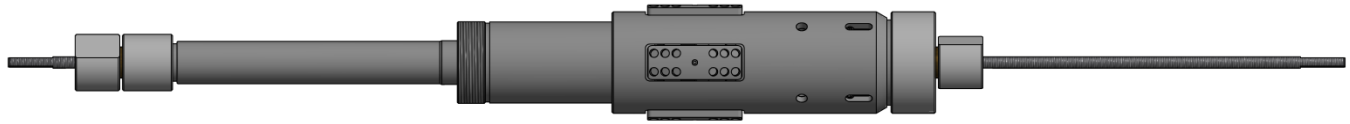

Fig. 6
K-1.5.8) Tighten threaded lug (T1-4) to pull collet fingers on ratchet mandrel (6) through upper and lower cones (9, 16) (Fig. 6). Remove wedges from slips.